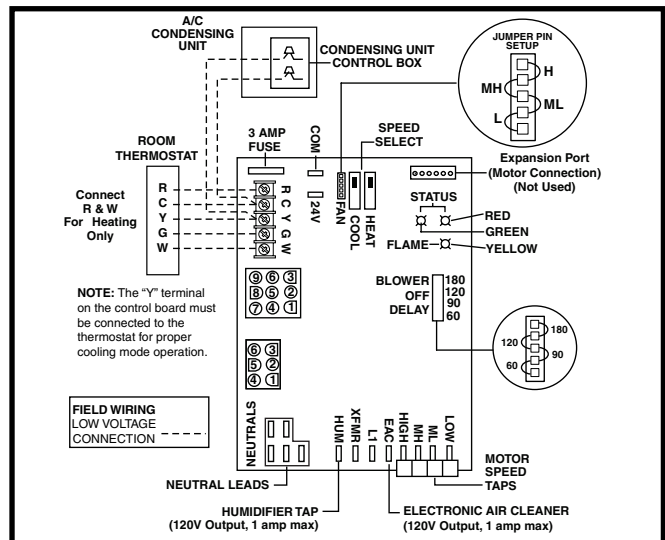

Figure 13. Low Voltage Connections
are wired to the terminal strip on the integrated control in the furnace. Figure 13 contains the proper connections for heating only (two-wire) and heating/cooling (four-wire) applications.
- The six pin terminal marked "Expansion Port" (Figure 13, page 14) is not used in the single stage furnace as shipped from the factory. It is used for the furnace control board to communicate to a fixed speed or variable speed high efficiency motor that may be optionally installed. Please contact your distributor for the proper upgrade motor kit.
- ✓ Verify the jumper setting (for fan speed) on the control board. See Figure 13, (page 14).
- When the thermostat energizes the **G** terminal for continuous fan (without calling for heat or cooling), the indoor fan is energized on the selected FAN speed. See Figure 13, \(page 14\). The control defaults to MEDIUM HIGH if the movable jumper is not attached.